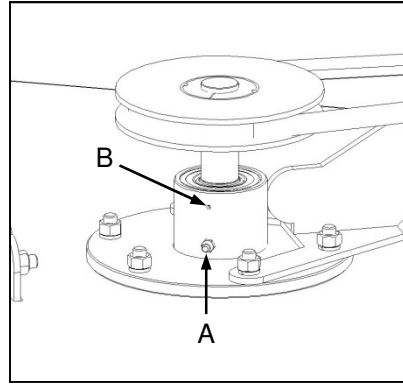

Fig. 9 (Rotagang®)
- ✓ Spindle bearing housings are provided with grease nipples (Fig. 9-A). Fill with grease until grease just appears to exit the vent hole (Fig. 9-B).
- ✓ Spilkieëllaeromhulsels het ghriesnippels (Fig. 9-A). Vul met ghries totdat die ghries net-net uit die luggat begin kom (Fig. 9-B).